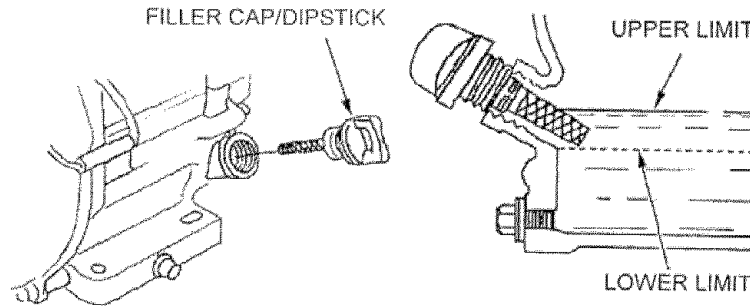

Figure 15- Checking Oil
1. Remove the filler cap/dipstick and wipe it clean (see figure 15).